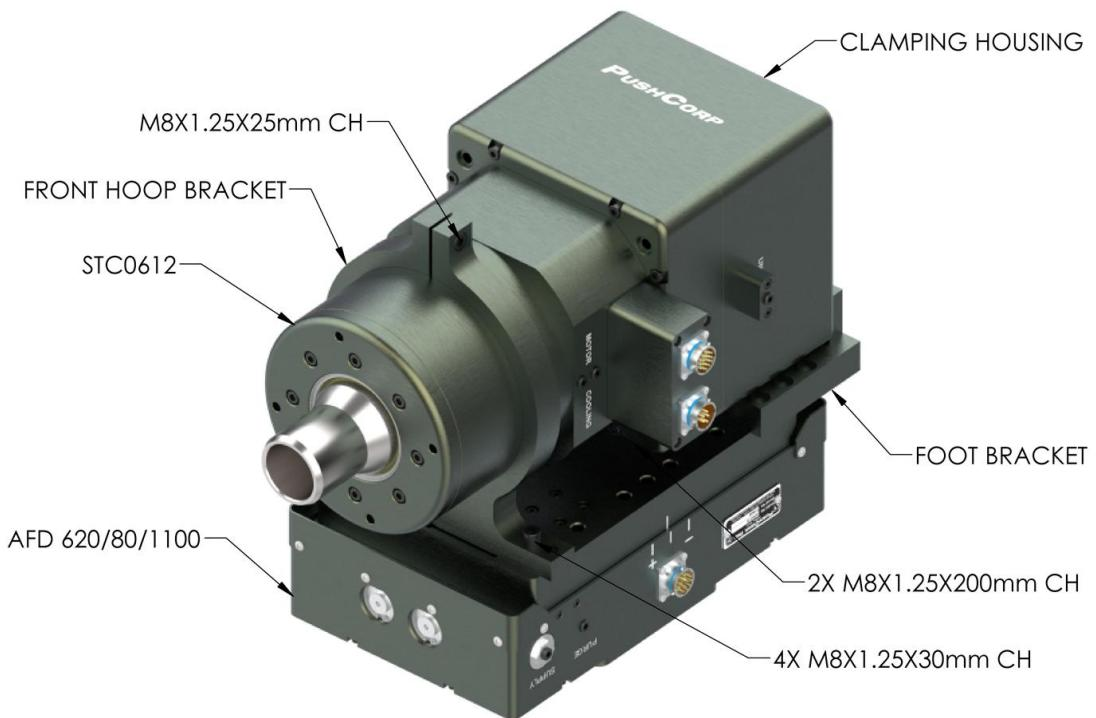

FIGURE 1: 0612-PARALLEL-AXIS-CONFIGURATION
For the Parallel-Axis configuration, shown in Figure 1, the 0612 attaches to the AFD Carriage with two brackets and four (4), M8x1.25x25mm, Socket Head Cap Screws. The 0612 is positioned on the Carriage with the Foot Bracket while the Front Bracket is attached to the forward mounting holes. The Clamping Screw on the Front Bracket should be loose to allow sliding movement along the motor. Attach the Foot Bracket to the Clamping Housing (Mounting Plate for the SM0612) using two (2), M8x1.25 Socket Head Cap Screws. When the desired position is achieved secure the brackets to the Carriage, and tighten the Clamping Screw. The M8x1.25, Socket Head Cap Screws, must be the proper length and tightened to the torque specified in Section 4.0.